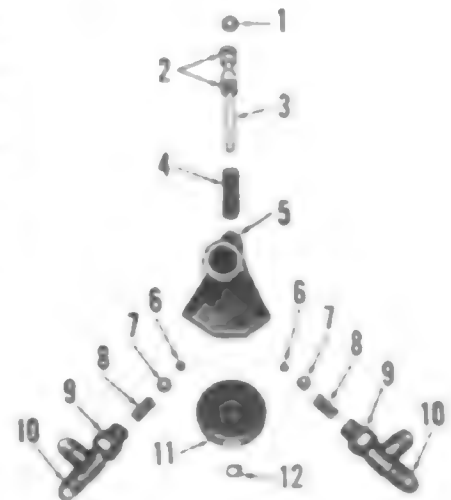

Fig. 158 - Exploded view of equalizer valve.
**125. OVERHAUL EQUALIZER VALVE.** With equalizer valve removed, refer to Fig. 158 and remove snap ring (12) and equalizing plate (11). Tap the spool (3) from snap ring end to knock plug (1) out the opposite end, then remove spool and spring. Remove the fittings (10), springs (8), 5/16-inch balls (7) and 3/16-inch balls (6).